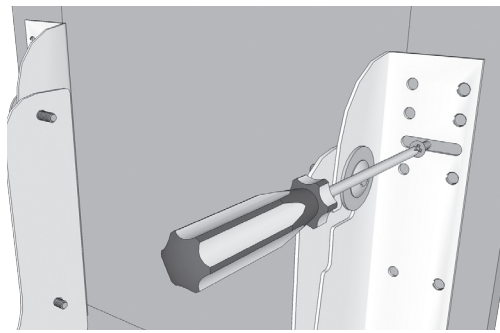

fig. 6
**Step 8.** Remove door mount brackets again and screw to inside of cabinet door with #6 x 1/2" flat head screws. **NOTE:** Line up door mount bracket to cabinet door by aligning door mount bracket with the vertical and horizontal lines you marked in steps 6 and 7. (See figure 6)